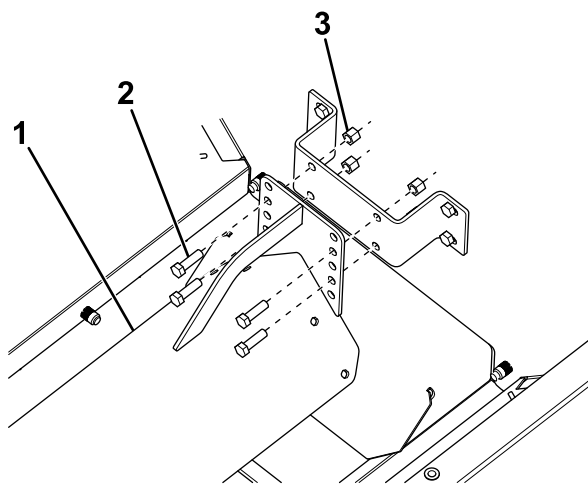

Figure 15
- Secure 1 end of the baffle to the front mounting bracket using 4 bolts (3/8 x 1-1/4 inches) and nuts (Figure 15). Repeat on the rear mounting bracket.